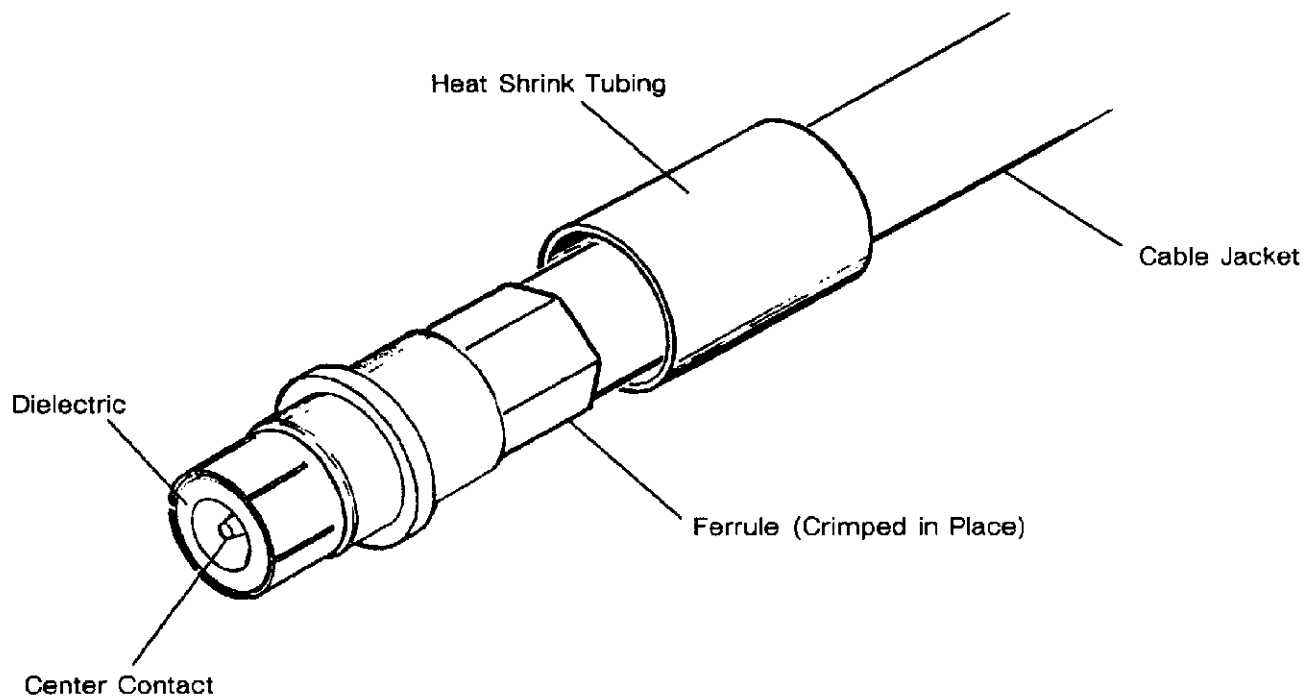

Fig. 5. Assembly
13. With tool handles fully open, position ferrule in lower die; then close tool handles until they bottom and disengage ratchet. Allow tool handles to open fully and remove crimped contact. See Figure 5.